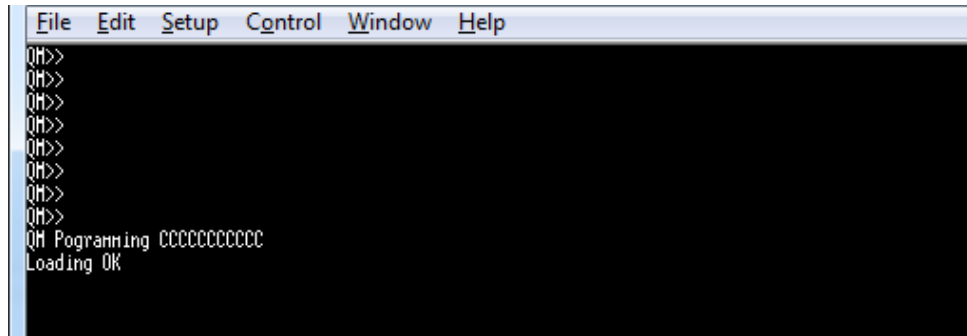

Figure 7.9: Terminal - load new firmware successful
12. After few seconds firmware update procedure is finished(figure 7.9).